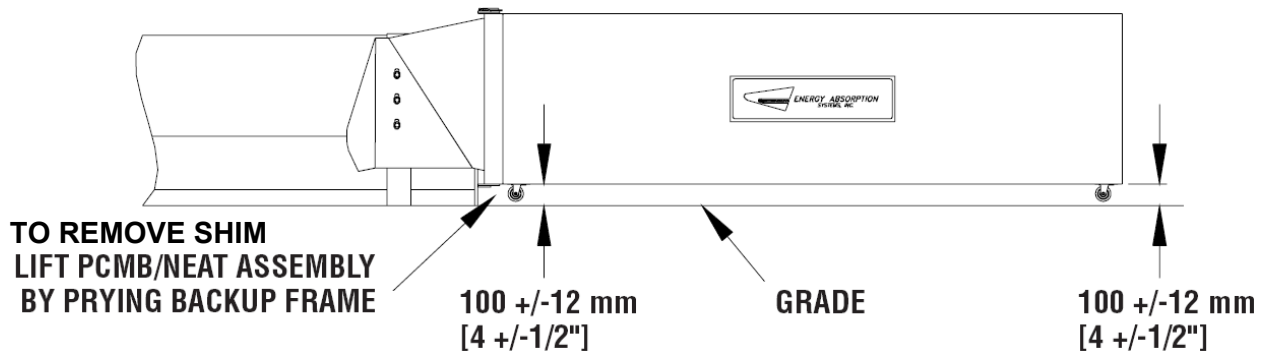

Figure 10
Step 8: Checking Assembly Height (See Figure 10)